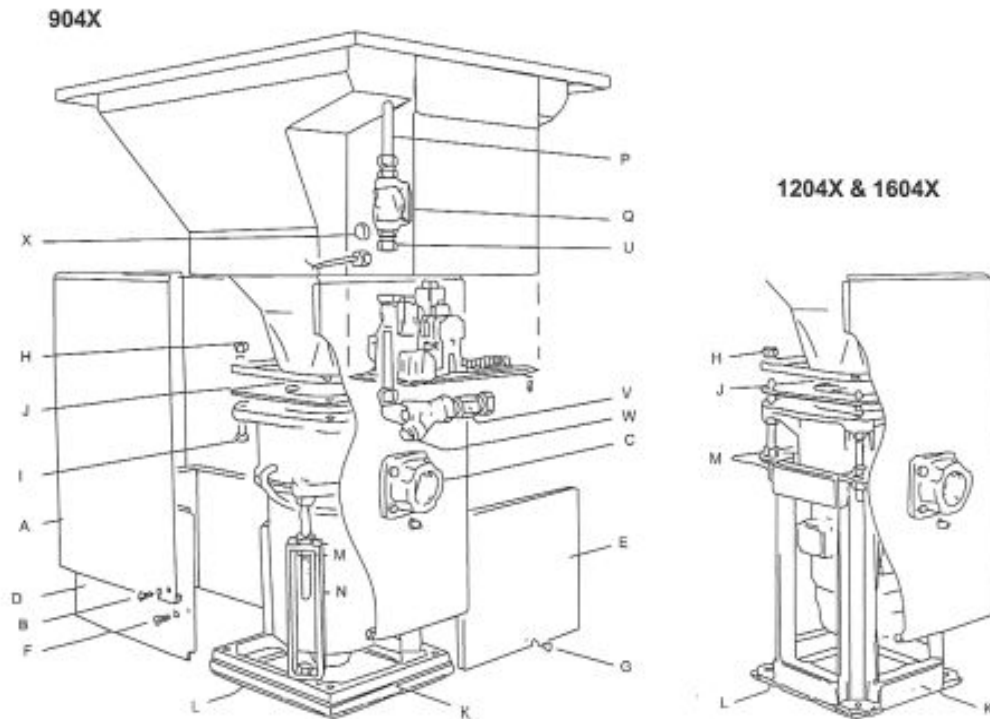

Fig 2
1. Remove the three-sided section of the upper cladding (A-Fig 2) by undoing the screws on either side (B). One part of the cladding remains attached at the waste outlet (C).
2. Remove the lower cladding which is in two parts (D and E) held together by two screws (F) and attached to the base casting or frame by screw (G).
3. Position the machine with the waste outlet (C) facing in the chosen direction. Allow space for the necessary trap.
4. If the hopper needs to be moved to a different position relative to the waste outlet, undo the four hopper retaining nuts (H). Lift the hopper and turn as required. Replace ensuring that the gasket (J) remains undisturbed. Replace nuts, or bolts and nuts (H) and tighten up uniformly all round. Do not over tighten but ensure that the gasket is nipped firmly and the hopper is rigidly fixed without distortion of its bottom flange.